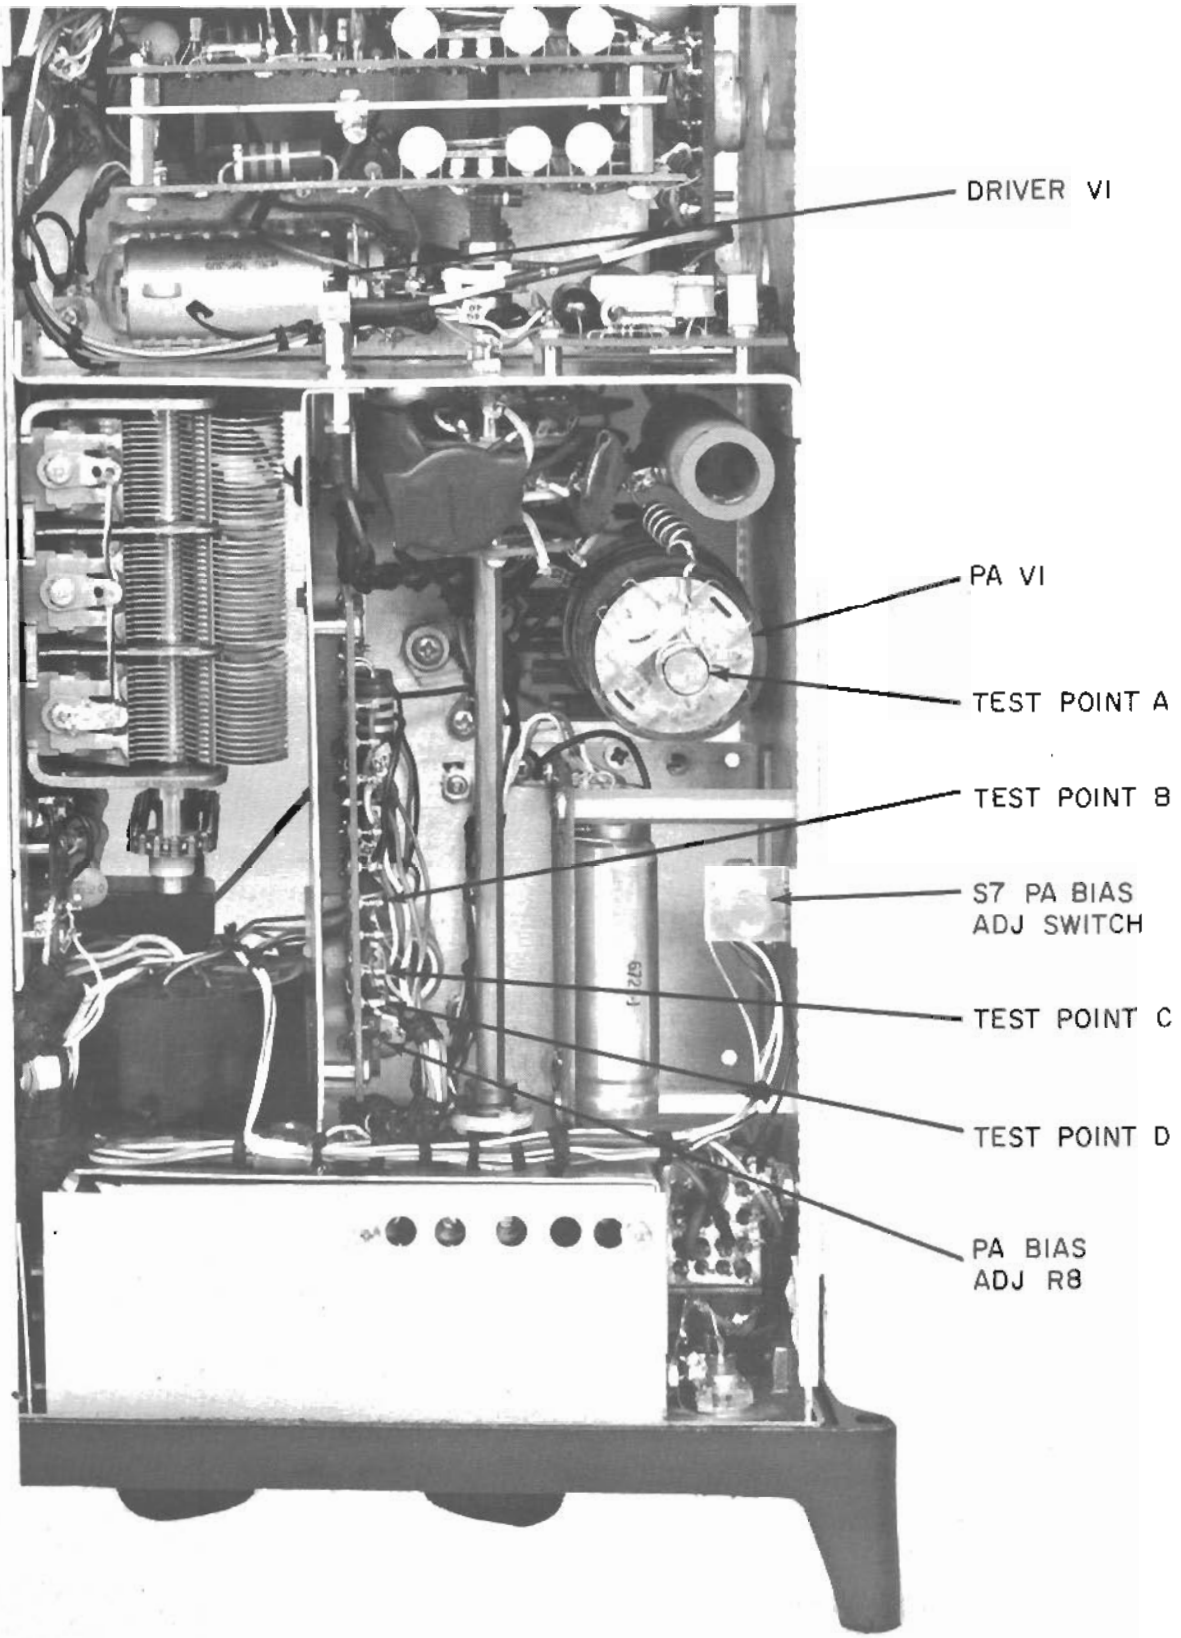

FIGURE 5.1 - DC VOLTAGE TEST POINTS AND PA ADJUSTMENT LOCATION
Table 5.1 lists the approximate dc voltages that can be measured on the Transmit Power Supply Rectifier Assembly. Figure 5.1 shows
To remove the driver tube (figure 5.1), carefully pull the outer shield off the side of the tube. A small pair of pliers or the hook on the end of an inspection probe should be used to pull on the embossed tab on the outer shield. With the outer shield off, bend the two halves of the inner shield away from the tube, and remove the tube from the socket.
To remove the p.a. tube (figure 5.1), carefully lift off the plate connection from the top of the tube. Remove the two screws and attaching hardware securing the heat sink to the chassis. Remove the heat sink. Then, gently rock the tube out of the socket.
Whenever the p.a. tube is replaced, the control grid bias should be readjusted for the proper idling plate current. The bias is set with the p.a. bias control on the Power Supply Rectifier Assembly (figure 5.1). Be sure to use a fully charged battery pack or other source of proper supply voltage for the test.
- d. While depressing the push-button pa idle current test switch S7 figure 5.1, key the transceiver, and adjust the p.a. bias control for a front panel meter indication in the middle of the green section.